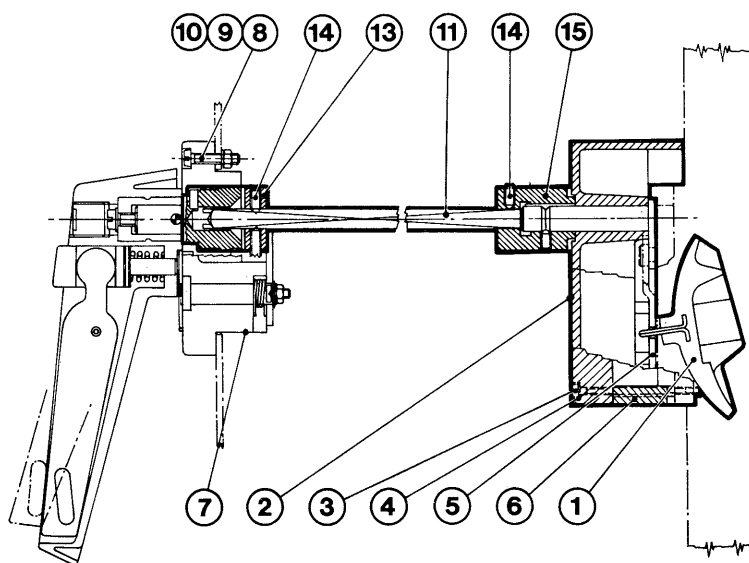
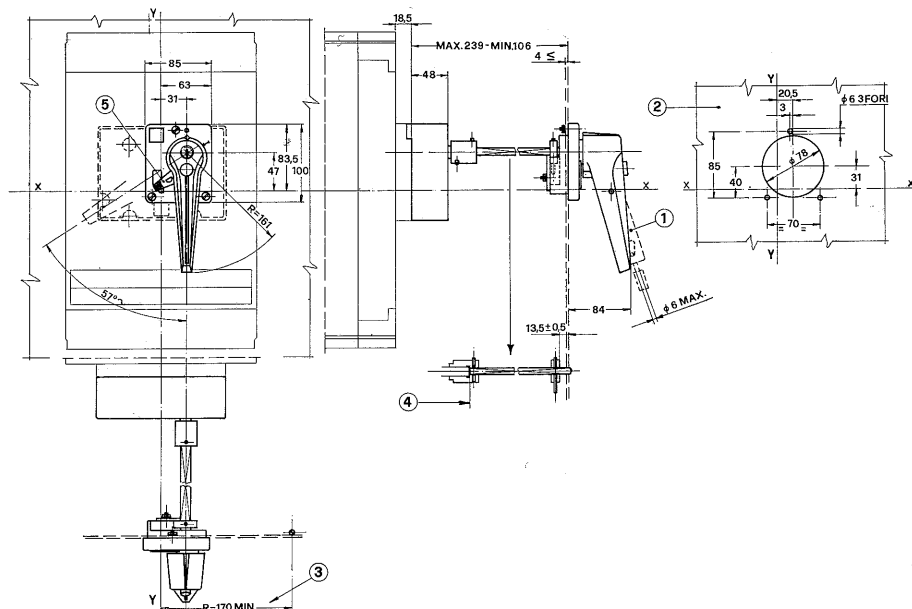

Fig. 29
Fig. 30
9.8.2. Applicazione comando a maniglia rotante ad albero prolungato a distanza regolabile (fig. 29)
- a) ripetere le operazioni riportate al § 9.8.1./a), b), c) curando che il tassello (6) sia nella sua cava come indicato in figura
- N.B. Serrare a fondo le viti (14) per evitare lo sfilamento accidentale dell'asta (11) dal giunto (15) del gruppo di rinvio (2) e dal perno (13).
9.8.2. Fitting of rotary handle operating mechanism with extended shaft, adjustable distance (fig. 29)
- a) operate as instructed under § 9.8.1./a), b), c) taking care that piece (6) is in its seat as shown on the figure
- b) install the breaker in the panel or enclosure taking care that the clearance between the door and the breaker is that indicated on figure 30
- c) drill the door to template on fig. 30
- d) shorten the transmitting rod (11) as shown on fig. 30 point 4 and observe the clearance of  $13,5 \pm 0,5$  mm. between stop (13) and the outside surface of the door.
- N.B. Tighten screws (14) to prevent rod (11) from slipping out of transmitting group joint (15) and from stop (13)